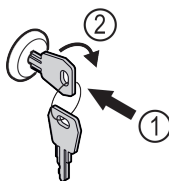

Fig. 169
- Insert the key. Fig. 169 (1)
- Turn the key clockwise by 90°. Fig. 169 (2)